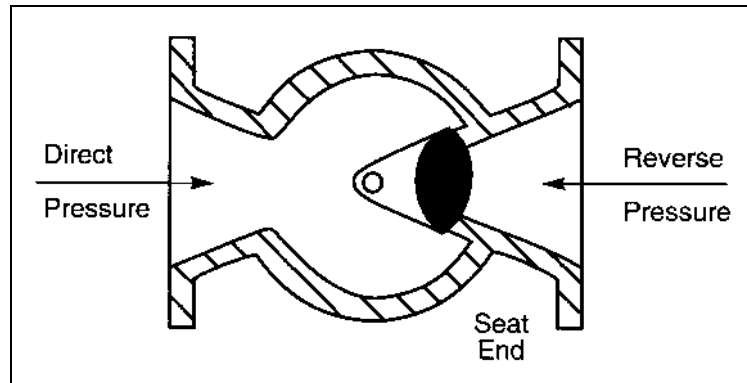

Figure 3 – Pressure Direction
Direct Pressure - When the higher pressure is at the end opposite the seat. See Figure 3.
Reverse Pressure - When the higher pressure is at the seat end of the valve. See Figure 3.
3. Close the valve with the pressure specified in Table C and Table D for the appropriate size and pressure direction—See Figure 3.